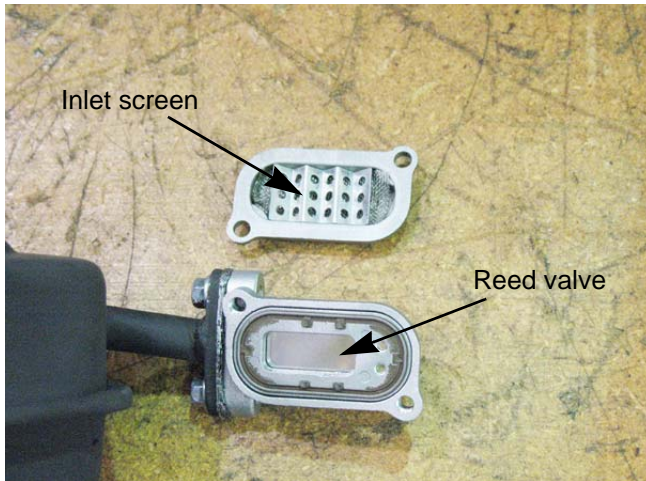

Figure 8.5
- During these periods of low pressure, air is drawn in to the converter through a reed valve in the air injector. See Figure 8.5.